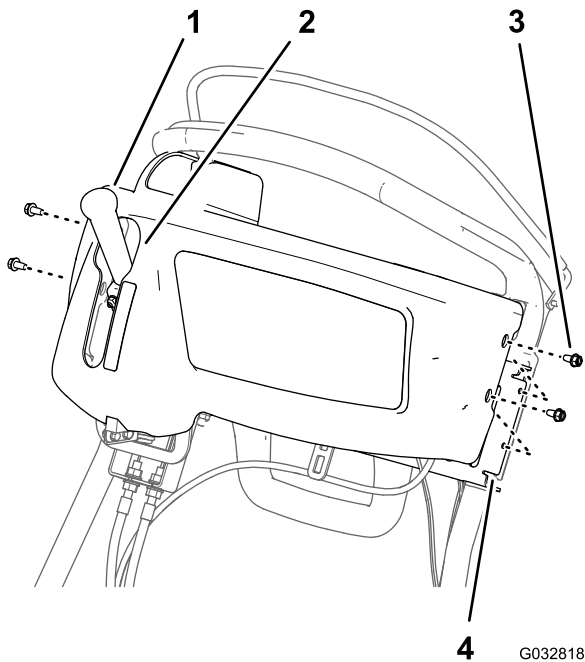

Figure 19
1. Align the key-hole slot in the control-panel cover over the traction and reel drive engagement lever (Figure 19).
2. Align the holes in the side of the control-panel cover with the holes in the support bracket for the handle bars (Figure 19).